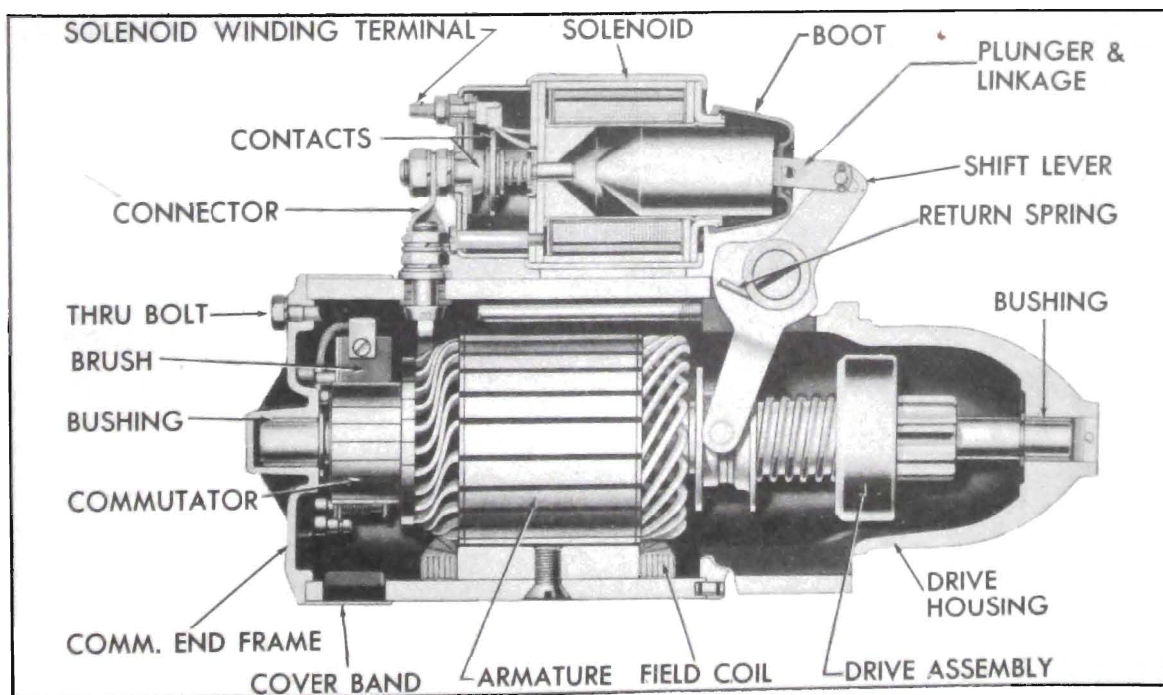

Figure 10-37—Cranking Motor—Sectional View
The cranking motor assembly consists of a motor, drive assembly, shift lever, and solenoid switch. See figure 10-37. It is mounted on the flywheel upper housing on the left side of engine.
The drive assembly pinion is moved into engagement with flywheel ring gear by action of the solenoid upon the shift lever, which engages the shift collar of drive assembly. The shift collar moves the drive assembly by pushing on the clutch spring, which serves as a cushion in case the pinion and gear teeth butt instead of meshing. The drive pinion is pulled out of engagement, after engine starts, by action of the shift lever return spring. The shift lever is connected to the solenoid switch plunger by a link and adjusting screw. See figure 10-37.
The solenoid section of the switch has a plunger and two windings, the "pull-in" winding and the "hold-in" winding. Together, they provide sufficient magnetic attraction to pull the solenoid plunger into the solenoid. The plunger actuates the shift lever and drive assembly and it also closes the solenoid switch contacts by pressing against a push rod upon which a contact disk is mounted between two coil springs. One spring serves as a cushion to insure firm contact of the disk with two stationary contacts. The other spring pushes the disk away from the stationary contacts to break the circuit when the solenoid is demagnetized after the engine starts. One stationary contact is connected to the battery positive cable and the other is connected to the motor windings through a connector or bus bar. See figure 10-37.
2. Connect a 12-volt battery, a variable resistance, and an ammeter of 100 amperes capacity in series with the base of the solenoid and the solenoid winding terminal stud on switch. This is the small stud *farthest from motor frame*. See figure 10-37.